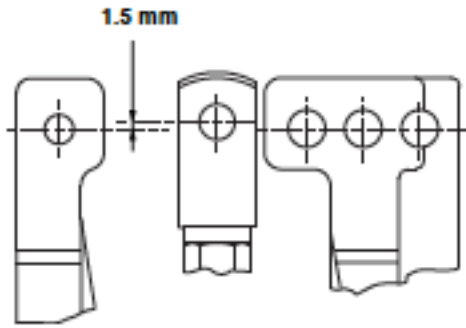

Figure 20 - Plug stem pre-adjustment for VariPak 28002 adjustable-C_v
- 1.5 mm above the alignment of the pin holes in the actuator bracket (108) for the VariPak 28002 adjustable- C_v valve (see figure 20).